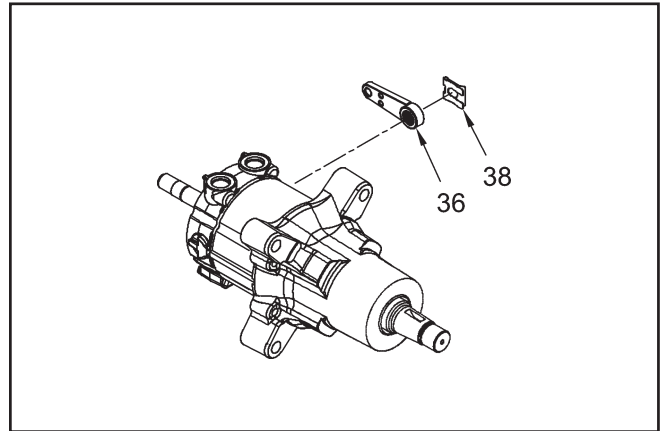
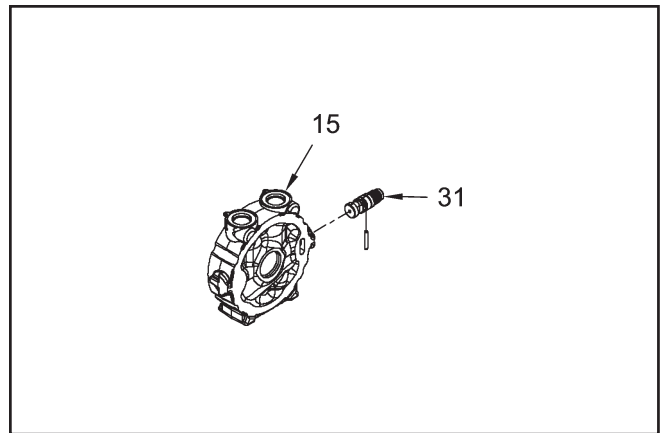

Figure 12
Figure 14
1. If the hub (56) has not been removed from the PRM, remove the hex lock nut (55) with an impact wrench. If the axle shaft (34) turns during nut removal, manually apply the PRM brake actuating handle (36, Fig. 12) to prevent the axle from turning. Use a wheel or gear puller and the hub puller adapter, located in the seal kit, to remove the hub from the shaft.
9. To ease reassembly, mark the port block (15), and ring gear (23) prior to disassembly. Also mark the brake actuating handle (36, Fig. 12) and brake cam (31, Fig. 14).